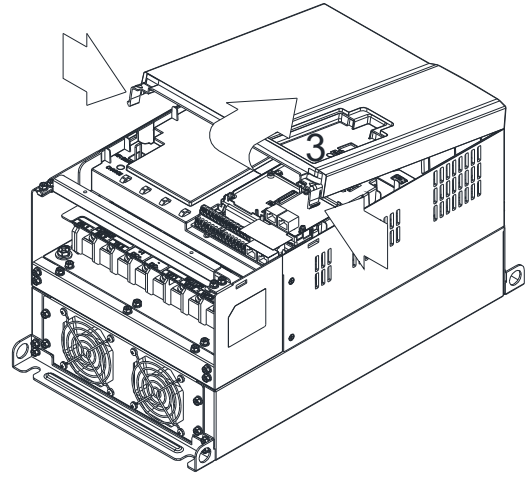

Figure 2
- (Figure 2) Loosen screw 3, press the tab on the right and the left to remove the cover. Screw 3 Torque: 6~8 kg-cm / [5.2~6.9 lb-in.] / [0.6~0.8 Nm]